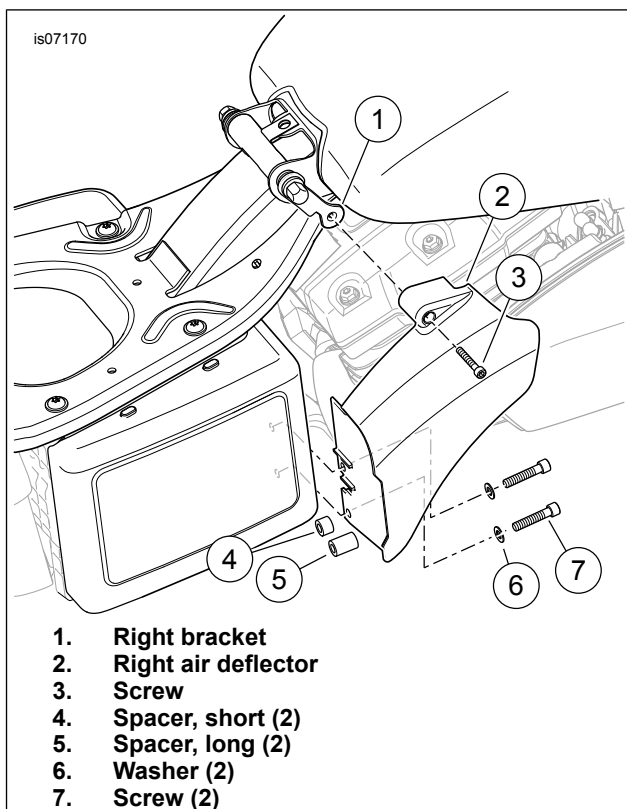

Figure 3. Install Right Mid-Frame Air Deflector
5. See Figure 3. Install the right mid-frame air deflector as follows:
- b. Install the right air deflector to the battery box. **For models with an exhaust actuator:** Install screws (7), washers (6), right mid-frame air deflector (2), short spacers (4) and exhaust actuator to the battery box. Do not tighten screws. **For models without an exhaust actuator:** If present, pull the cable strap from the threaded hole in the front face of the battery box to expose the hole and free the unused exhaust actuator connection wiring. Use the cable straps provided in the kit to relocate and retain the wiring along the battery cable. (Verify clearance to the engine/exhaust.) Install screws (7), washers (6), mid-frame air deflector (2) and long spacer (5) to the battery box. Do not tighten screw.
- c. Install screw (3) and mid-frame air deflector (2) to the right mounting bracket (1). The front mounting tab of the mid-frame air deflector should be positioned above the ABS brake lines, if equipped. Do not tighten screws.